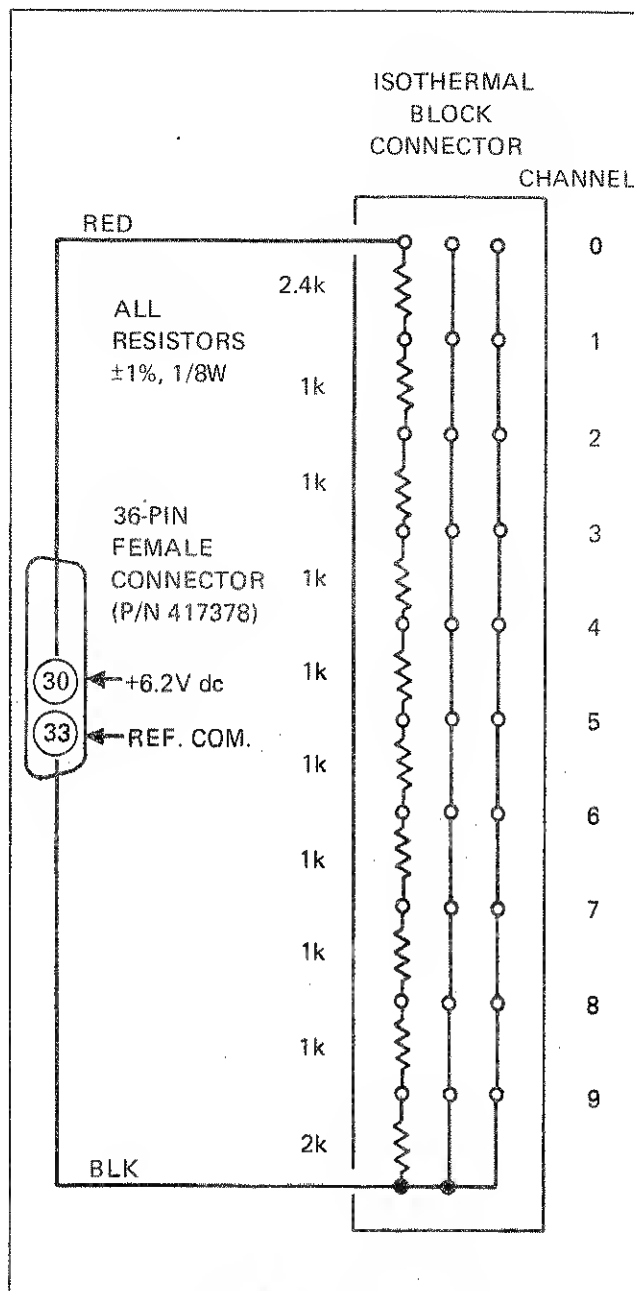

Figure 5-1. Test Cable
1. Fabricate a test cable using a isothermal block input connector (2205A-008); two 24-inch lengths of 20-gauge insulated copper wire (red, black); ten 1/4 watt, 1% resistors; and a 36-pin male connector (Fluke Part Number 417378). Assemble the cable as shown in Figure 5-1.